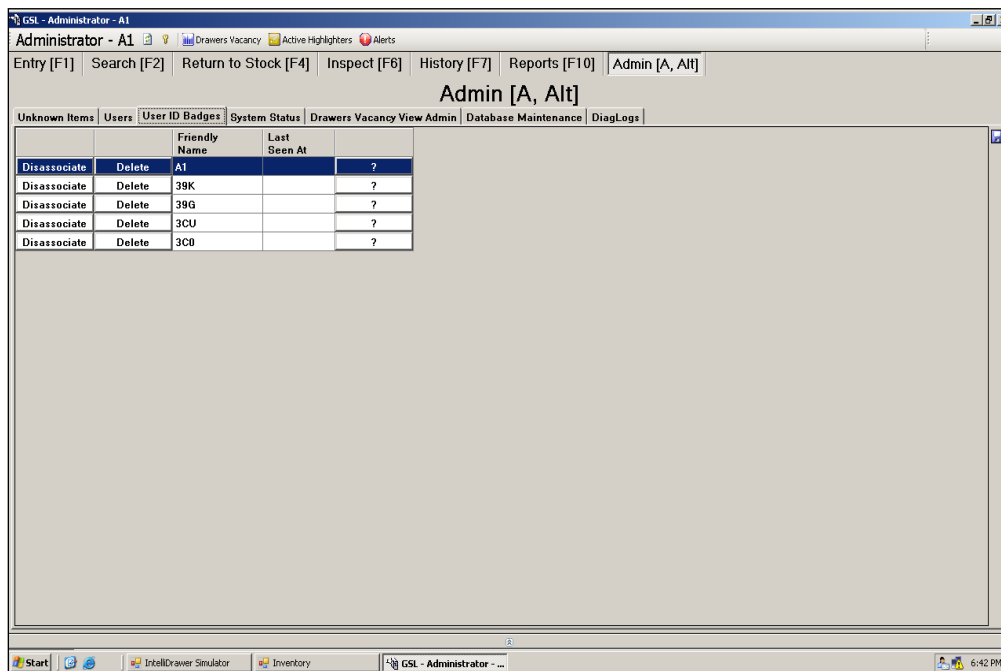

Figure 61. Administrator – Add SmartBadges screen.
9.4.1. Before a SmartBadge can be used it must be added to the system. Follow these steps to add a SmartBadge to the system (see *Figure 61*):